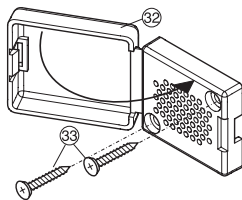

Figure 17
- If the upper cabinet spacer (**Fig. 7, 5**) *does not* interfere with the top kitchen cabinet door hinge, install it in the location shown in **Figure 7** using the screws provided (**Fig. 17, 33**). Make sure the front edge of the spacer is recessed 1/8 in. (3 mm) from the edge of the kitchen cabinet wall. The plastic hinge of the cabinet spacer should face the rear wall of the cabinet.
- All 24 in. (609.6 mm) wide cabinets require the lower cabinet spacer (Fig. 7, 6).** Install it in the location shown in **Figure 7** using the screws provided (**Fig. 17, 33**). Make sure the front edge of the spacer is recessed 1/8 in. (3 mm) from the edge of the kitchen cabinet wall. The plastic hinge of the cabinet spacer should face the rear wall of the cabinet.